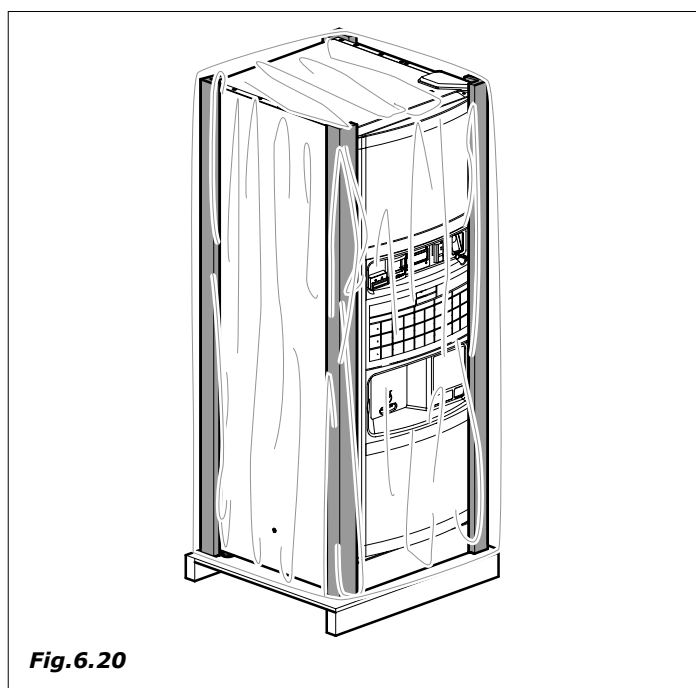

Fig.6.20
- protect the outside of the machine with a plastic film wrapping or bag (fig. 6.20)